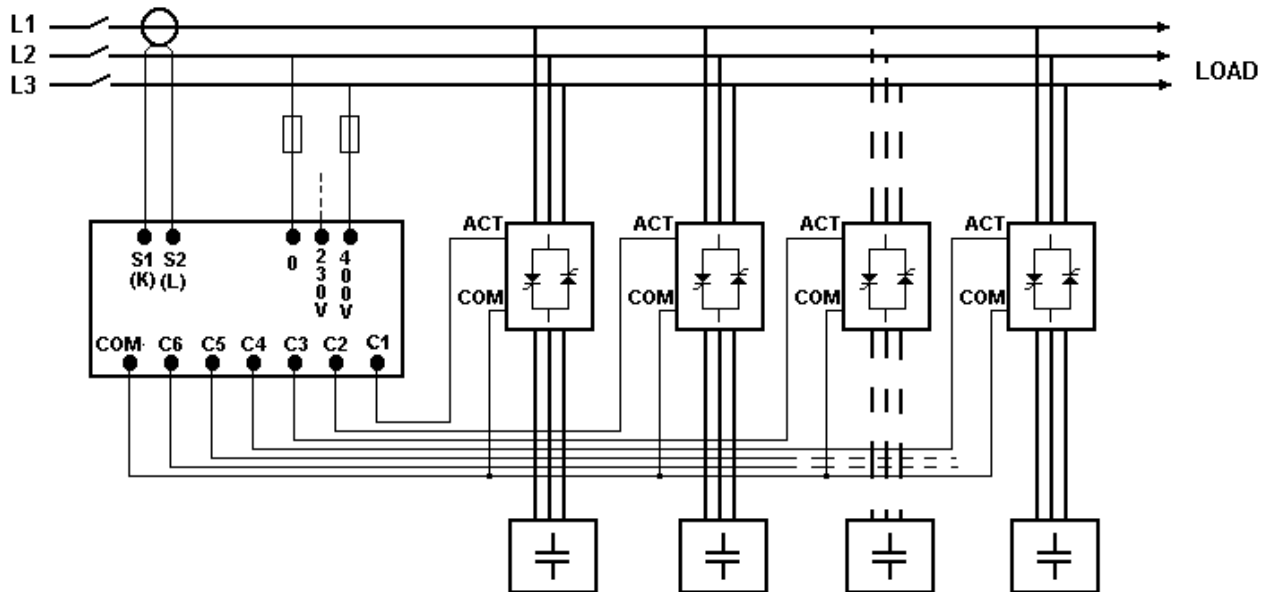

Figure 3.- Connection of COMPUTER 6f to capacitor bank
- Check that the connections of the PF regulator with the rest of devices of the static capacitor bank are according to figure 3.